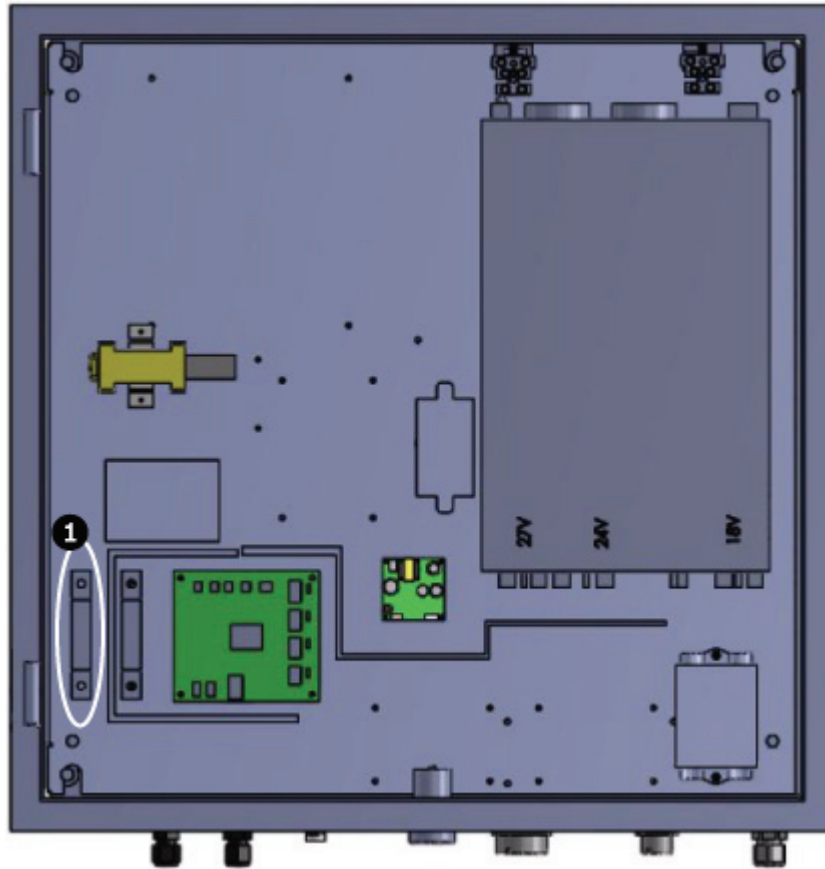

Figure 3.2 Location of Biphase code Translator inside GVS1000 Power Supply Unit
A unit with Biphase support is installed with two code translator units, as shown in *Figure 3.2*, the Pelco P/D code translator and the Biphase translator unit (item 1, below). The Biphase translator has four status LEDs, but only two are operational.